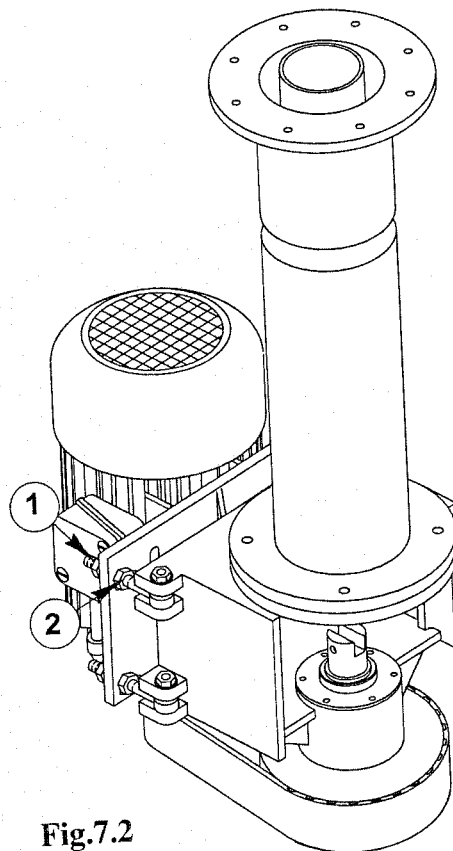

Fig.7.2
- **Transmission belt (Fig. 7.2)**